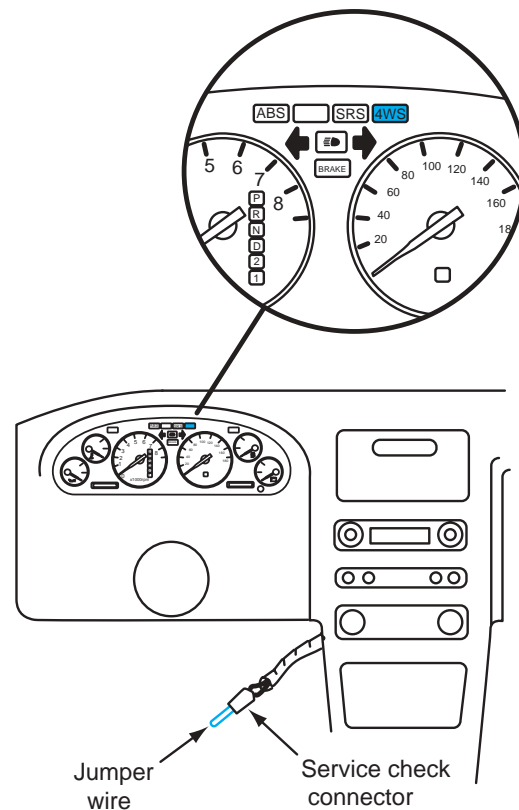

Figure 13-1 Dual-terminal service check connector positioned behind the center console.
1. Remove the dual-terminal **service check connector** located behind the center console, and connect the two terminals in this connector with a jumper wire (Figure 13-1).